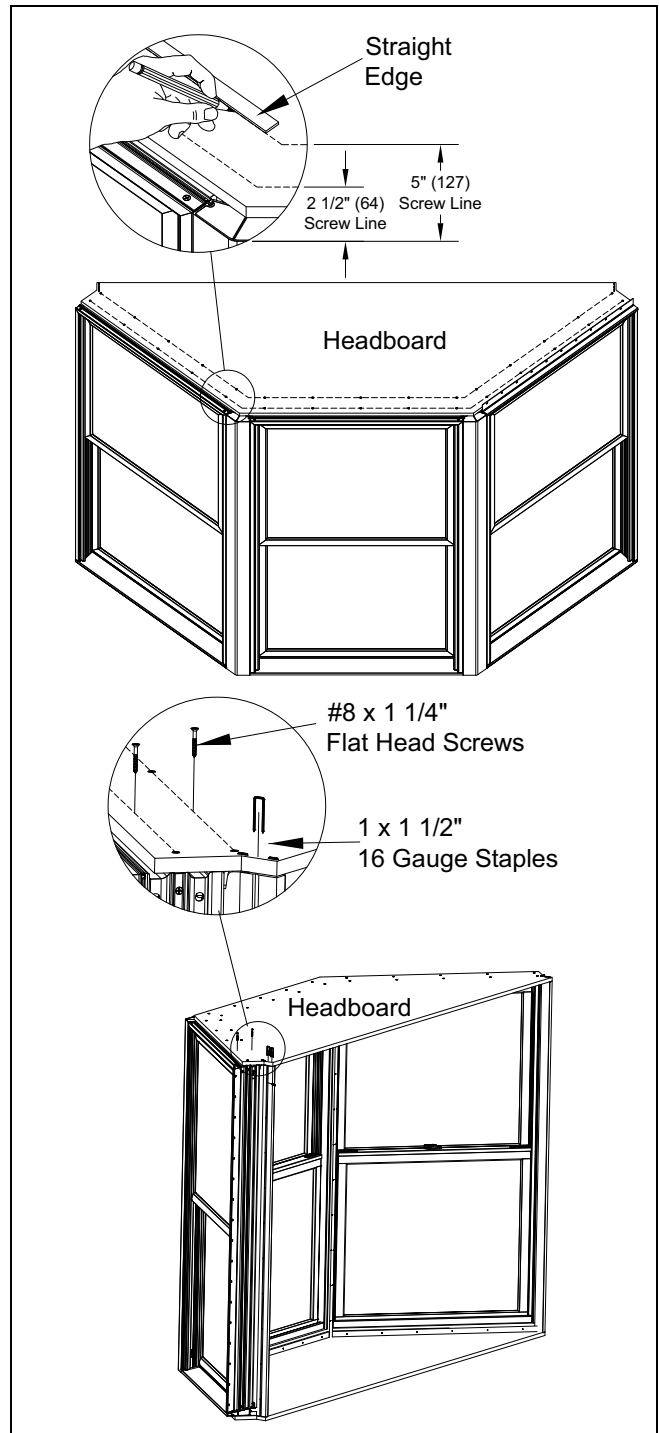

Figure 7
4. Check jamb to jamb and diagonal measurements to be sure they are correct (see step 1 in this section). Position head board on unit and align interior edge flush with jamb extensions. Attach at flanker outer side jambs, jamb filler, and jamb extension using 1/2" x 1 1/2" 16 gauge staples (3-4 on each side) or use #8 x 1 1/4" screws in pre-drilled holes (3-4 on each side). Trace screw lines on head board at 2 1/2" (64) and 5" (127) from exterior edge of frames. Attach using #8 x 1 1/4" flat head screws spaced 6"-8" (152-203) on each line. See Figure 7.